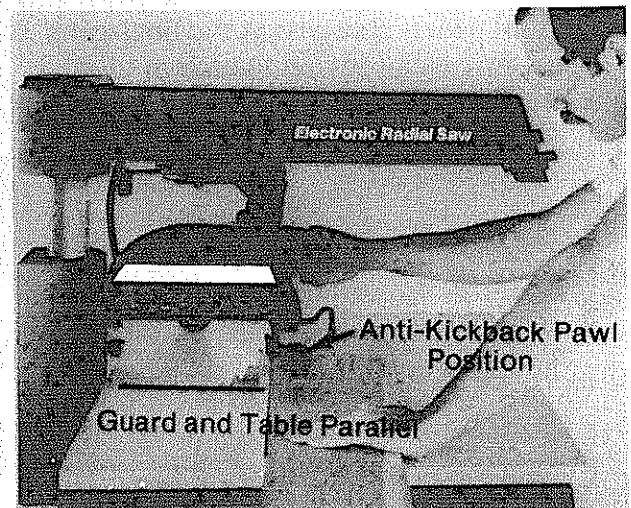

Fig. 90 - Crosscut Blade Guard and Body Position
**WARNING:** To reduce the risk of contact with the upper half of the blade and keep the workpiece from jamming in the guard, set the blade guard in the horizontal position, Fig. 90
▲ WARNING: The blade guard must be horizontal to provide protection from contact with the upper half of the blade and avoid the workpiece being jammed in the blade. Set the blade guard in the horizontal position. Fig. 90